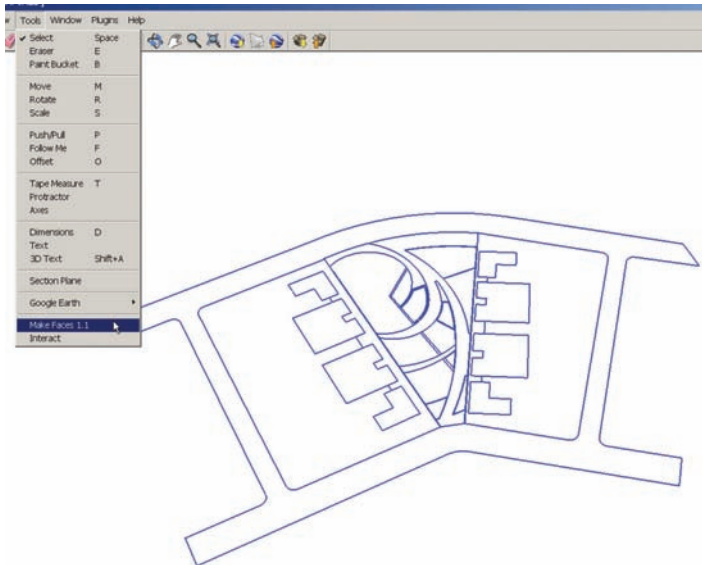

Fig. 18-26: Select all of the edges. From the Tools menu, go to the bottom and select Make Faces.
4. Select all of the edges. Under the Tools menu, select Make Faces. A progress bar will run at the bottom left. Once the script finishes running, faces will be generated from the edges (Fig. 18-26, Fig. 8-27).